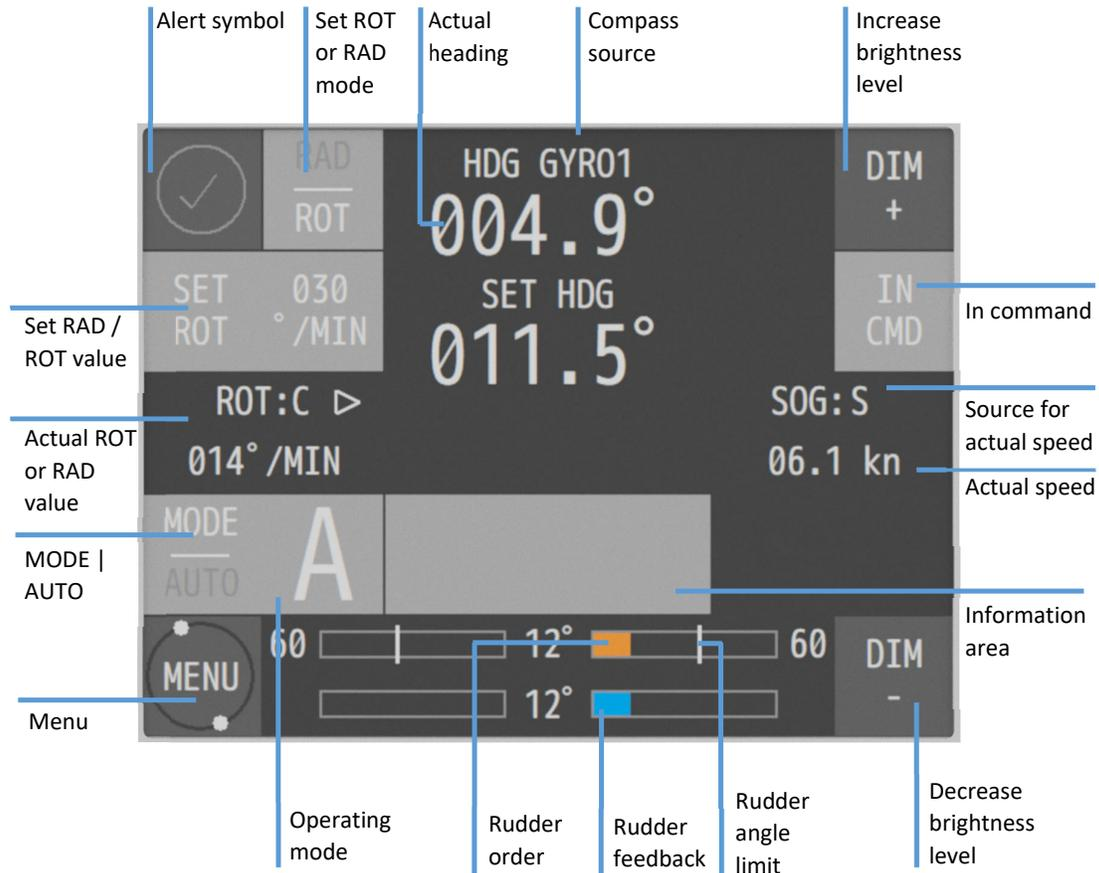

Figure 2: AlphaPilot MFM control unit - Displayed information
- The touch screen display shows information such as heading, current mode and settings, and alerts. The touch screen display is also used to set parameters (see Figure 2 on page 19).
The information shown on the display depends partly on the operating mode. Figure 2 (and Table 1) is provided as an example to highlight generic information. For information displayed in a specific operation mode related information is described in the respective section (see section 'Operating modes' on page 22).
The operating modes are displayed on the AlphaPilot MFM control unit (see Figure 2 on page 19) and explained in this section. Symbols are used to clearly indicate the active autopilot operating mode.